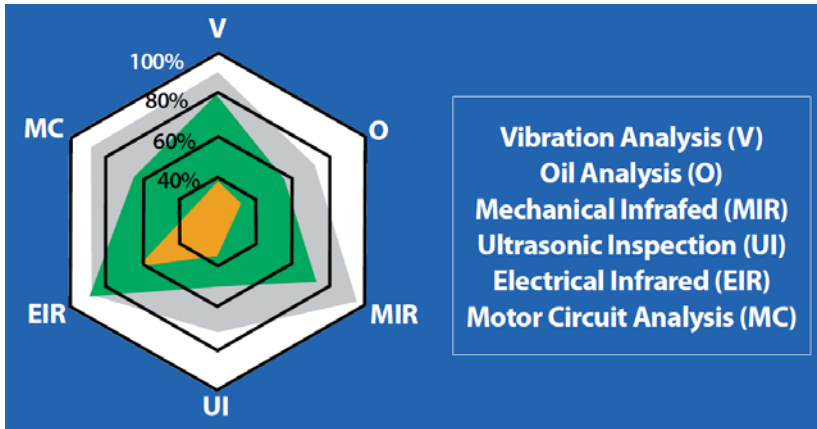

Figure 4 - How Much Condition Monitoring Coverage?
**How Much** - how do we know that a facility reporting Asset Health is applying the standard to a high enough percentage of their assets to be representative? In other words, many facilities only apply condition monitoring technologies to 10% of their most critical assets, or only supply a couple of technologies. This approach will not enable the Proactive Workflow Model, will not drive bottom line results, and will not give you a representative picture of your Asset Health. Figure 4 is an example from a plant where the “Grey” represents how many assets the given technology could be applied to, the “Green” represents “Best Practice Performance”